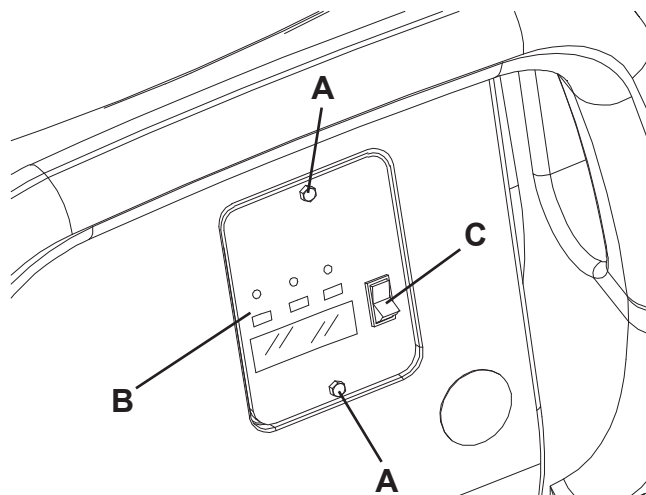

Figure 1
- Remove the battery charger data inspection window screws (A, Fig. 1).
- Remove the window (B).
- Turn the battery charger selector (C) to WET for lead batteries, or to GEL for gel batteries.
- Install the window (B) and tighten the screws (A).